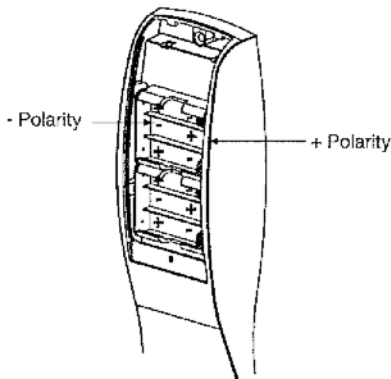

Fig. 2
1. Insert two #8-32 screws (Fig. 2) through top and bottom of inside escutcheon and thread into outside escutcheon. Straighten escutcheons and tighten securely, being careful to avoid pinching wires.
3. Place (6) “AA” batteries into the compartment being careful to align polarity properly (Ref. Fig. 2).